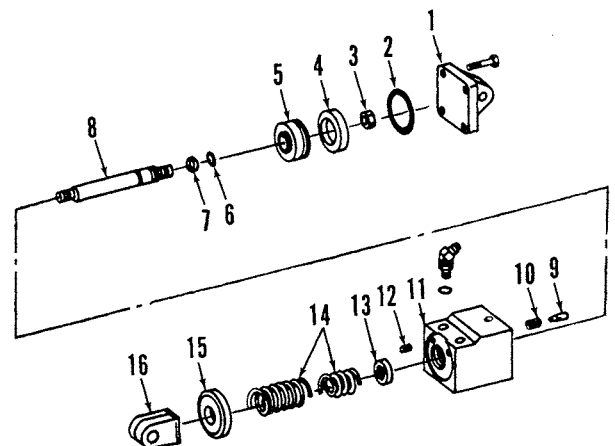

Fig. 263—Exploded view of draft sensing cylinder used on Models 4650 and 4850.
To disassemble, remove top bracket (1—Fig. 263). Clamp cylinder rod end (16) in a vise, then loosen rod nut (3) several turns.